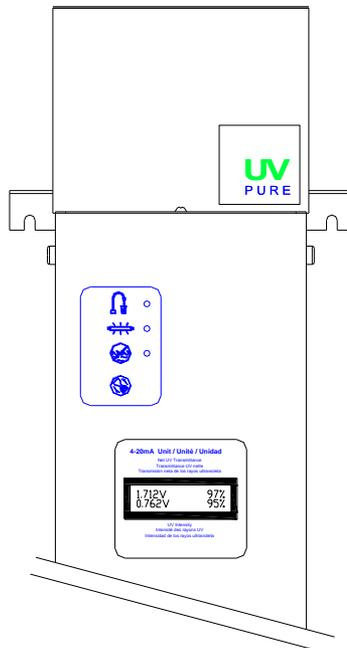

Figure 1
The Crossfire Technology® embedded within the Hallett units (See Figure 3), allows for both a UV Intensity and Net UV Transmittance (UVT) signal to be provided. The 4-20mA option provides these two analog signals. It is a transmitter utilizing an external power supply that can be used with any device that requires a 4-20mA signal for logging purposes or for process control. The device is installed On Board (see Figure 1) but used only for Hallett 30s.
1. **LCD Display** - A 2.5" LCD display is a standard feature indicating both input values and transmitted values – see Figure 1
5. **Mounted On Board** – The 4-20mA unit is typically installed within the Hallett 30 unit with the display located on the front panel - see Figures 1 & 2.